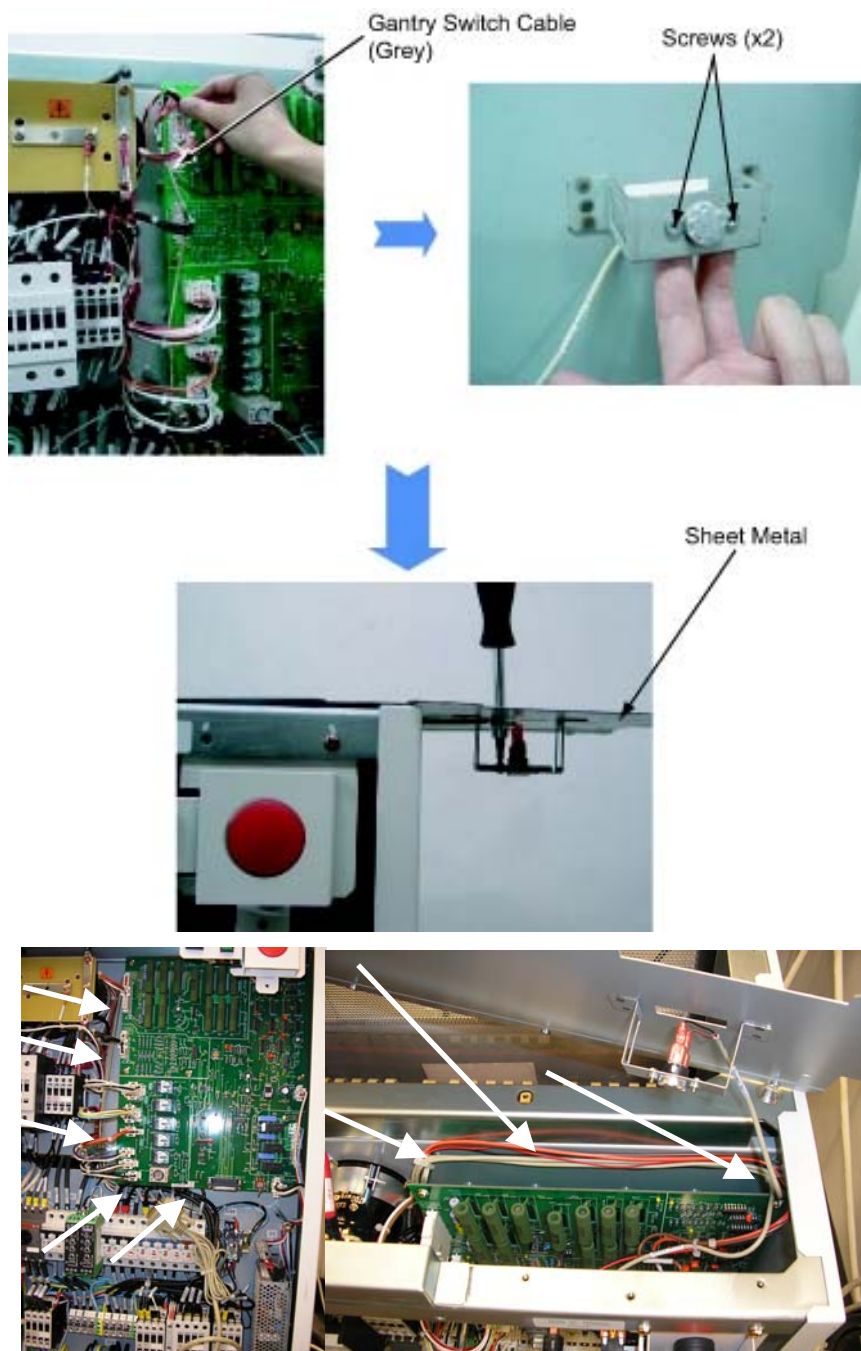

Figure 5 Route the Signal Cable and affix the Temperature Sensor on the Sheet Metal
3. Route the Gantry Switch Cable to go behind the existing wires from the bottom up. Pass the Temperature sensor through the top of the PDU behind the front top support. See Figure 5.
4. Place the Temperature Sensor on the bracket of the sheet metal (5146322 included in FMI Kit). See Figure 5. Fasten two screws on the Temperature Sensor.